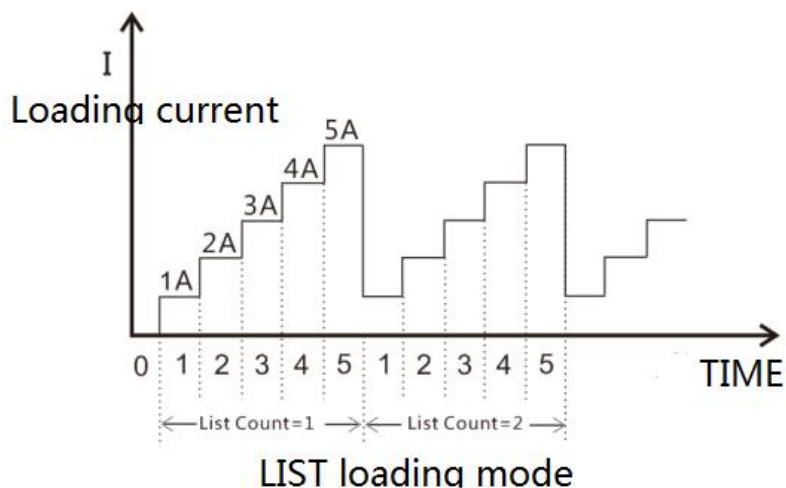

Figure 3.7 LIST loading
7. After the setting is completed, press the key **ESC** to back to the list test interface, press the key **ON** / **OFF** to turn on/off the loading. The test waveform is shown in Figure 3.7.